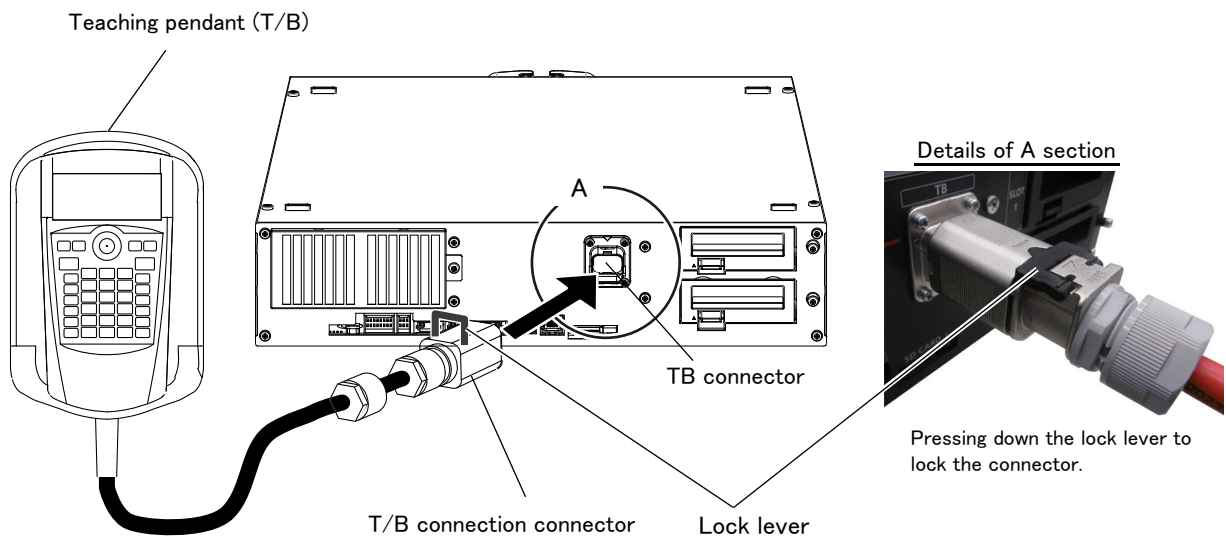

Fig.2-8:Installing the T/B
- 2) Refer to Fig. 2-8 and connect T/B connector to the robot controller.